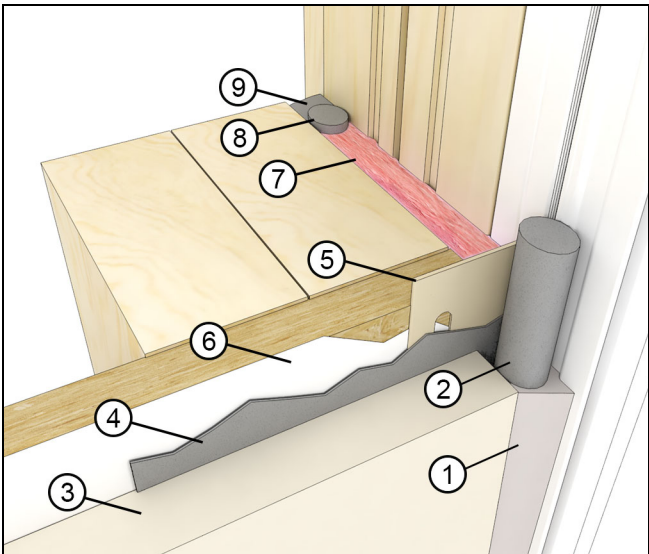

Figure 24
1. For ALL applications: Once the exterior finish such as siding or brick veneer is installed, apply bead of sealant between the finish and the frame exterior or casing along the sides. Apply additional beads approximately 1"- 2" (25-51) at the ends on top of the drip cap. Use a backer rod when necessary. See Figure 24 and Figure 25.